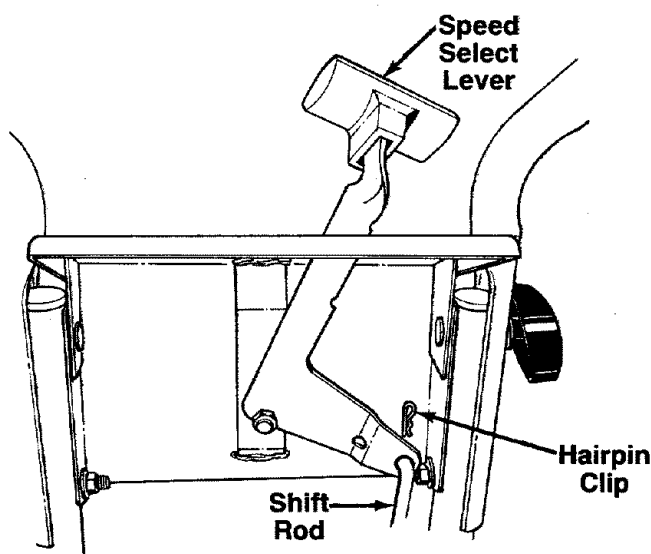

FIGURE 10.
2. Place the speed select lever in sixth speed (6) position. See figure 10. Push the shift rod down as far as it will go, to put the gears into full forward position. Thread the shift rod in or out of the ferrule as necessary until the end of the rod lines up with the hole in the speed select lever.
3. Insert end of rod into hole in speed select lever. Secure with hairpin clip. See figure 10.